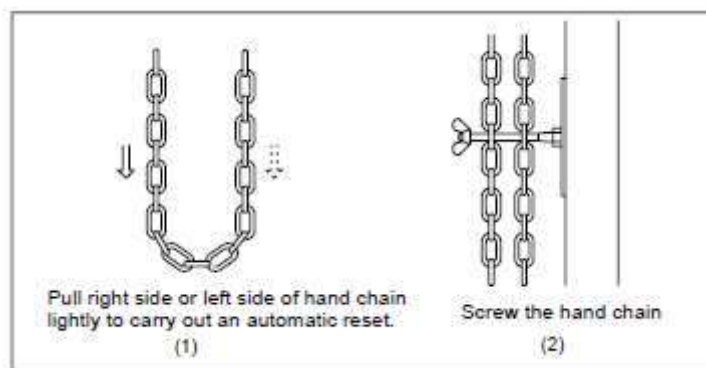

Fig. 3
- If the close indicator light on the control box flashes and the operator does not work by operating the control box button, pull one side of hand chain lightly until a reset is carried out see Fig.3 (1), the close indicator light turns off, and now the control box can be used.
- It is essential to screw the hand chain firmly in place as shown in Fig.3 (2).